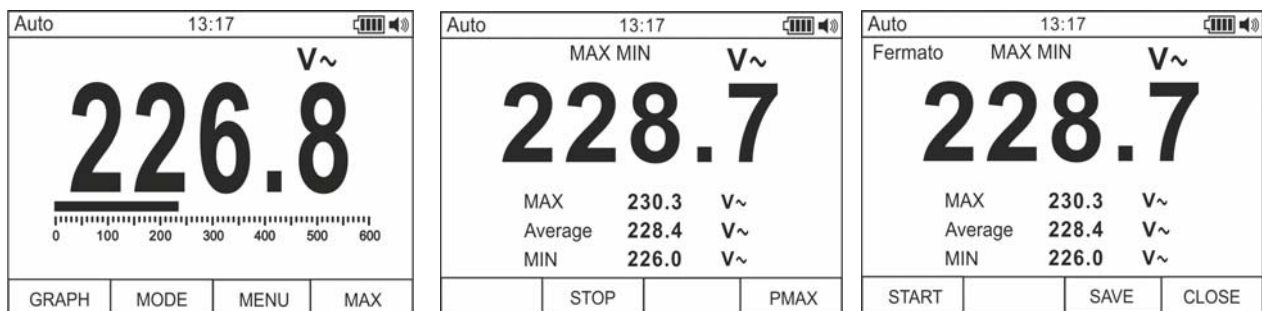

Fig. 6: Saving MIN/MAX/AVERAGE values
1. Press the **F4** key to enter the measuring mode of MAX, MIN and Average values of the quantity to be measured (see Fig. 6 – central part). The message “MAX MIN” appears on the display.
4. Press the **F3** key to save the measured result (see Fig. 6 – right side) and display it (see § 4.3.7).